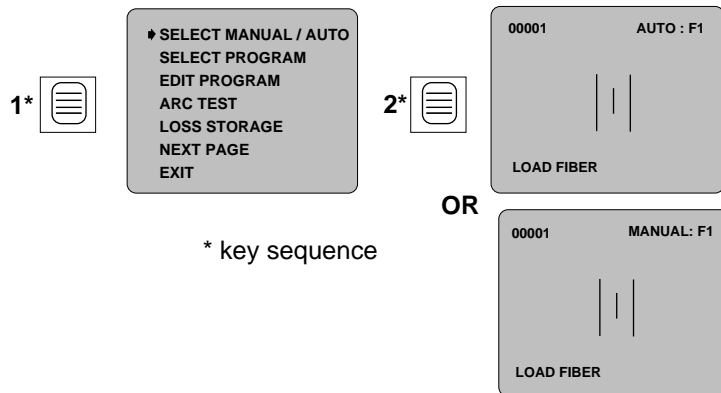

Figure 7
3.11 Select Manual or Automatic splicing operation as shown in Figure 7.